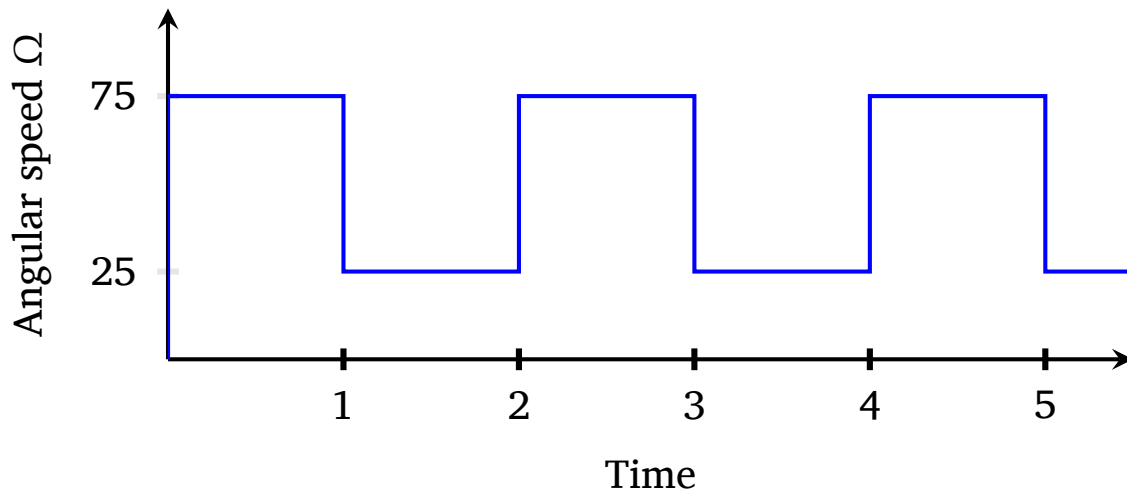

Figure 4 Square wave with frequency 0.5 Hz.
The objective of this section is to design a controller $K(s)$ that enable us to track the square wave in Figure 4 with the following specifications:
1. In MATLAB generate and plot a signal that mimics the shape of the square wave presented in Figure 4.